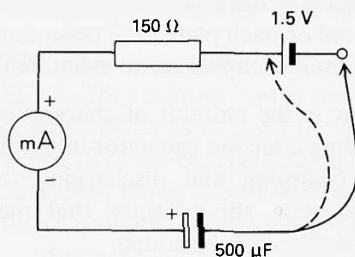

Figure B42
- Observe the meter deflections when the capacitor is charged and then discharged (broken line). (See figure B42.)